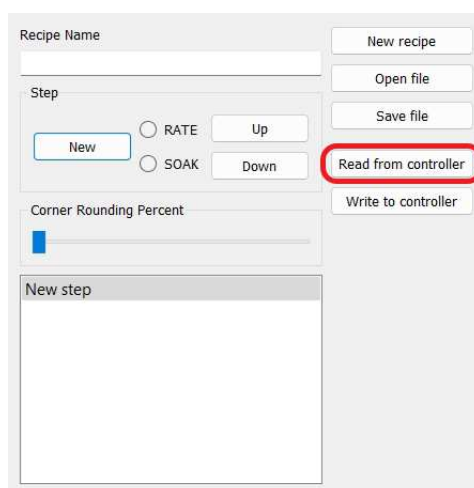

Figure 83: Recipe Editor – 'Read from controller' button
1. Open the 'Recipe Editor' window and click the 'Read from controller' button highlighted in Figure 83 below to open the 'Select Channel' window.